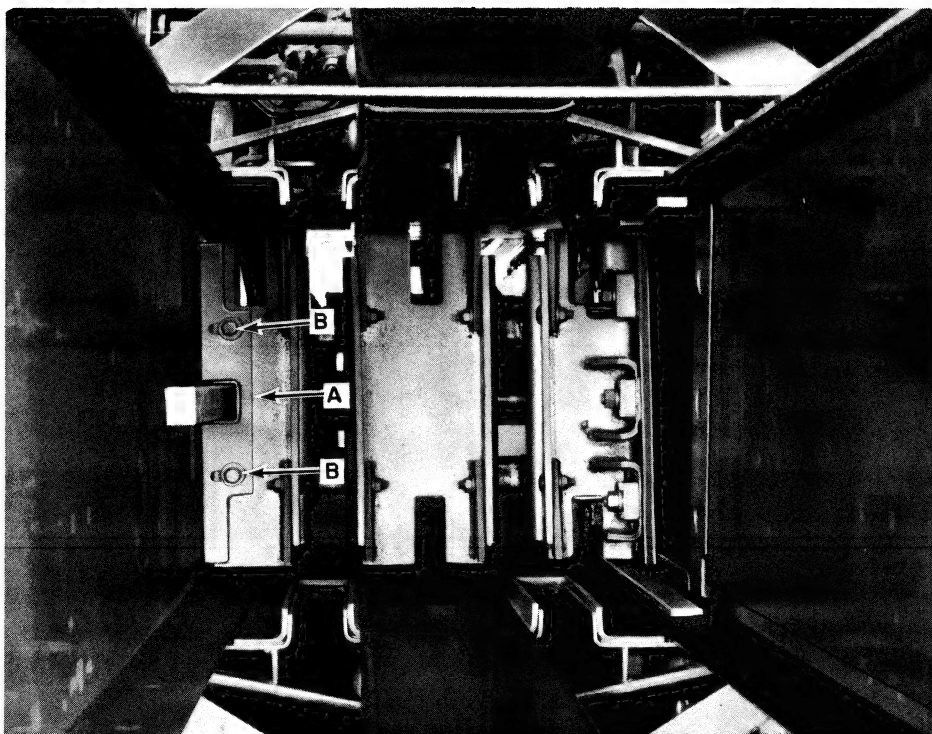

FIGURE 65
15. Adjust plate, A, Figure 65, to obtain 1/16" (1.6 mm) clearance between the plate and the left side of the bale case at the closest point in plunger travel.